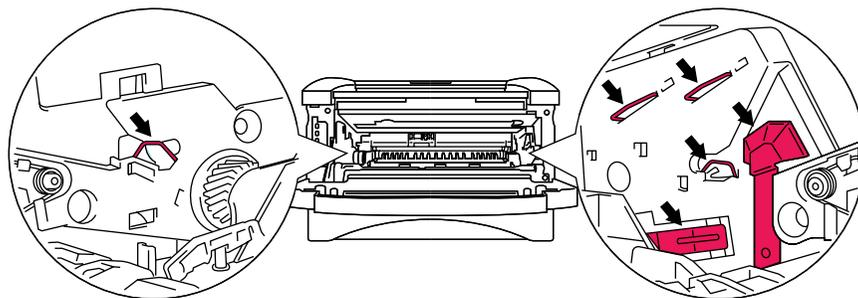

Figure 5-15
- To prevent damage to the printer from static electricity, do not touch the electrodes shown in Figure 5-15.